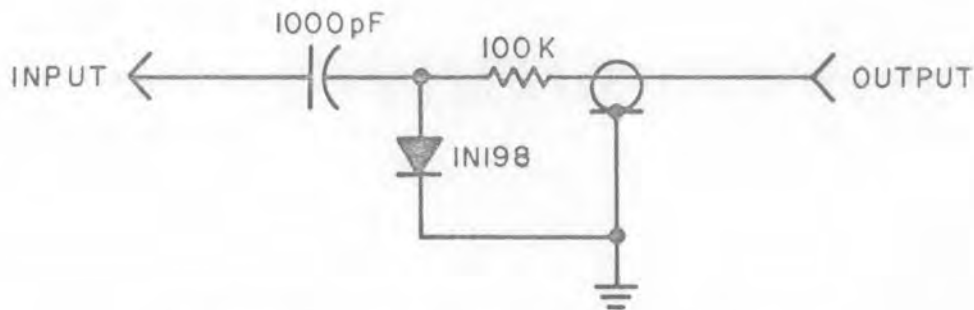

Figure 4-13. High Impedance Detector
- (1) Signal Generator, Hewlett Packard, Type 606B
- (2) Oscilloscope, Tektronix, Type 503
- (3) Sweep Signal Generator, Wavetek, Type 2001
- (4) Digital Voltmeter, Dana, Type 550/112
- (5) Frequency Counter, Computer Measurement Company, Type CMC-738A
- (6) High Impedance Detector, shown in Figure 4-13
- (7) Any tuning head used with the 215 Receiver
- (8) Assorted cables, connectors, and alignment tools